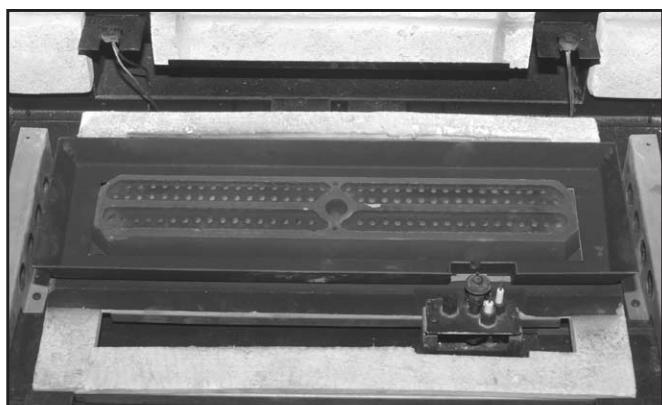

Figure 88: Glass Tray over Burner.
3. Place the glass tray over top of the burner top as shown in Figure 88. It simply rests over the top section of the burner.